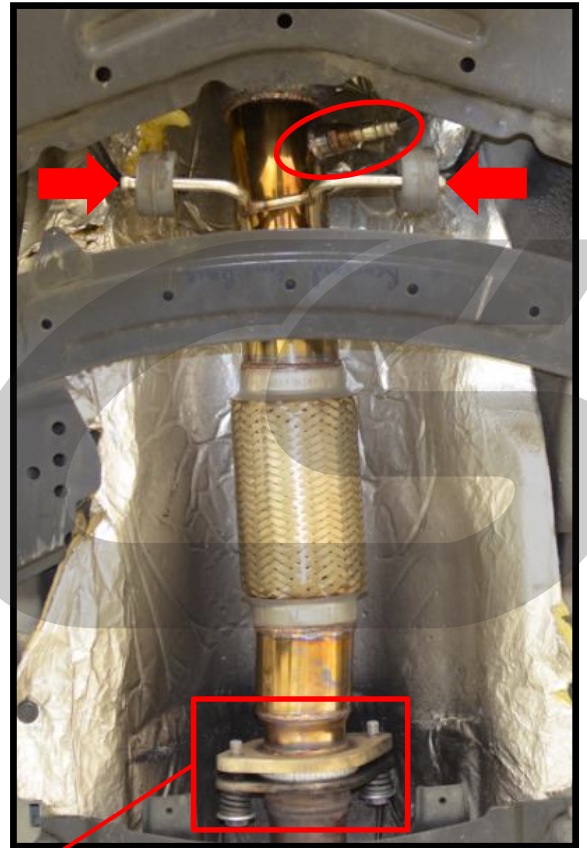

Figure 6c
- c) Remove the second oxygen sensor with an oxygen sensor socket and $\frac{1}{2}$ " ratchet, circled in red in Figure 6c.
- e) Remove the exhaust hangers from the downpipe, shown with the red arrows in Figure 6c.